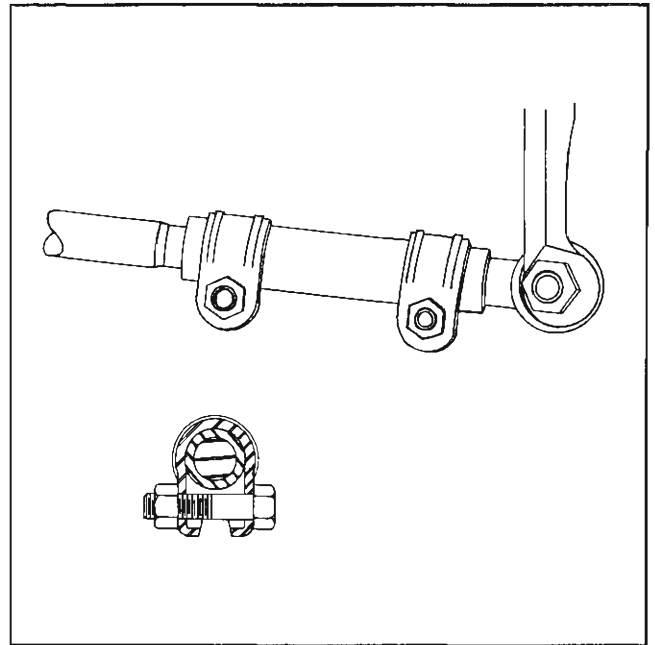

Fig. 3-12 Position for Tie-rod Adjuster Sleeve Bolts (Viewed from Top)
4. Tighten tie rod adjuster sleeve bolts to 14-20 lb. ft. torque, making sure bolts are positioned as shown in Fig. 3-12.